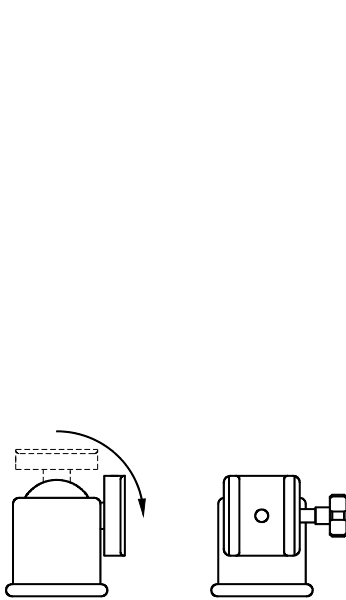

Fig. 1
1. Drop the ball stem and quick-release clamp into the side slot (notch in the rim of the ball head “cup”) as shown in **Fig. 1**. The knob on the clamp can be on either the right or left side; this is strictly personal preference.